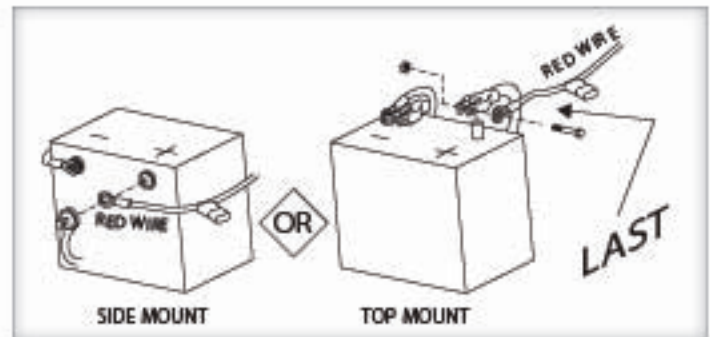

Figure 15-2
7. Attach red wire to the positive terminal on the battery. [Figure 15-2]